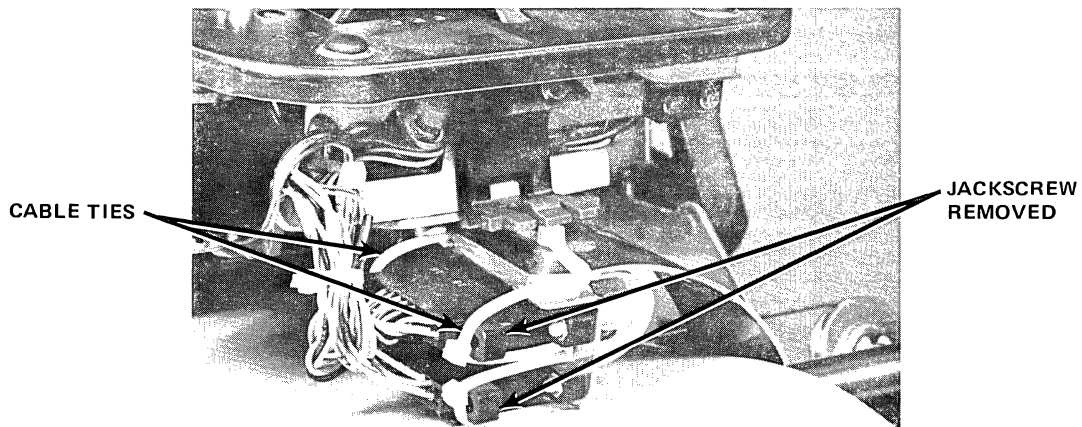

Figure 4-20. SECURING MISMATCHED CARRIAGE CABLE CONNECTORS
- A replacement carriage assembly will be equipped with either jackscrew or self-locking type cable connectors. The self-locking type is designed with a detent feature to hold the two halves of the connector together. If it becomes necessary to mismatch the two halves of these connectors; i.e., a jackscrew type connector joined to a self-locking type connector; neither the detent feature nor the jackscrews are functional. In this case, it is recommended that the two halves of both connectors be held together with a cable tie to ensure a secure, reliable connection. Figure 4-20 shows one example of how this can be done. In this case, the unusable jackscrews have been completely removed to make space for the cable ties. Note that a cable tie is used on both sides of each connector.